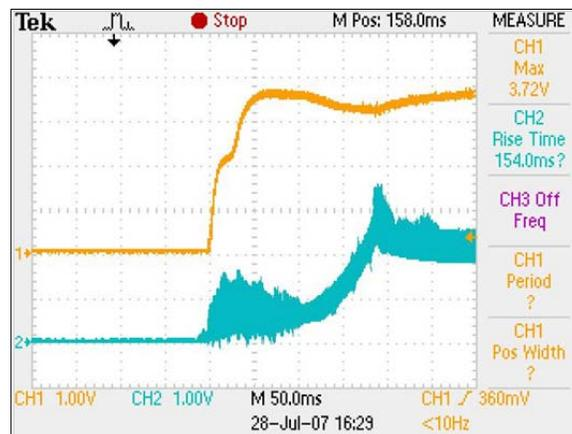

Figure 107: Incorrect kV-mA Rise Curve
- If the kV-mA rise curve appears as in Figure 107, then the filament may be too cold. If the red LED's have come on, reset the control board by disconnecting and reconnecting it from the 65V power supply. Increase the Pre-Heat by turning W2 counter-clockwise slightly.